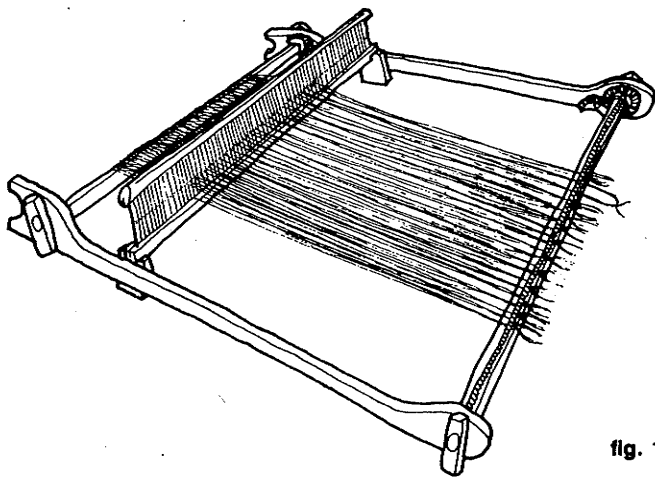

fig. 11
8. Temporarily tie 4 threads at each end into bows against the dents (fig. 11). **Place the heddle in the upper position on the shed blocks.** Now tie all the warp ends in groups of 4 or 8 into bows against the dents (fig. 11). Try to maintain an even tension while tying.